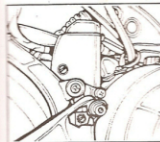

Fig. 3
- Open the carburetor outlet by loosening the drain screw positioned under the float chamber (as shown in fig. 3).